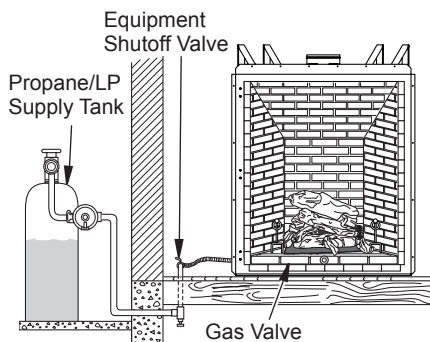
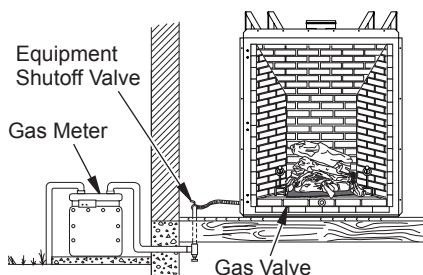

Figure 24 - Checking Gas Joints for Propane/LP Gas Fireplace
Figure 25 - Checking Gas Joints for Natural Gas Fireplace
4. Check all joints from equipment shutoff valve to gas valve (see Figure 24 or Figure 25). Apply noncorrosive leak detection fluid to all joints. Bubbles forming show a leak. Correct all leaks at once.